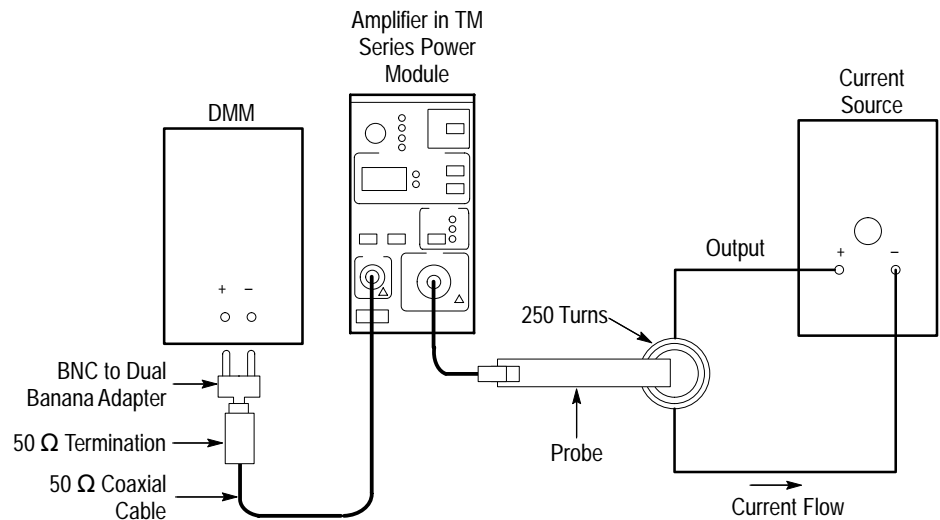

Figure 6-5: DC Gain Accuracy Adjustment Setup
4. Clamp the current probe around the current loop. (See Figure 6-5.) Check that the arrow-shaped indicator on the probe points away from the current source.